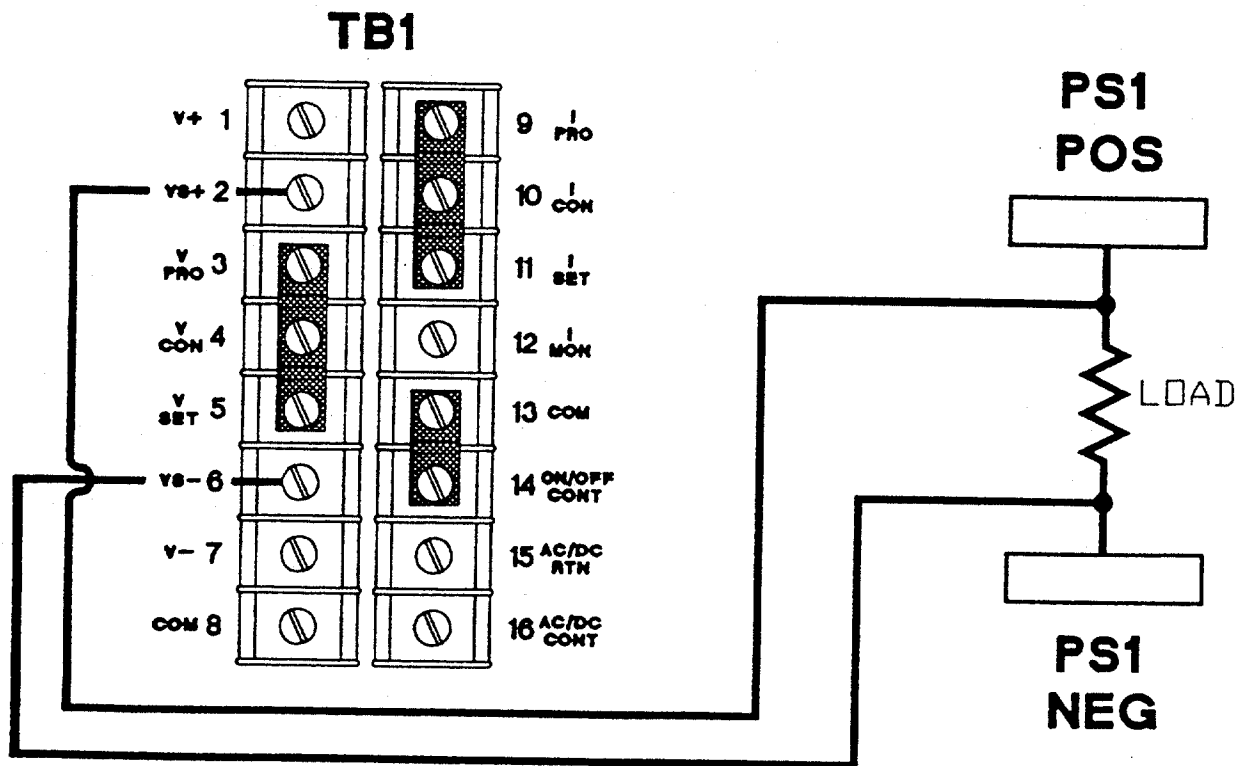

FIGURE 3-7
d. Remote Sensing. In applications where the load is located some distance from the power supply or the voltage drop of the power output leads significantly interferes with load regulation, remote voltage sensing may be used. When remote sensing is used, voltage is regulated at the load versus the power supply output terminals. To connect the power supply for remote voltage sensing (see Figure 3-7 for strapping requirements):